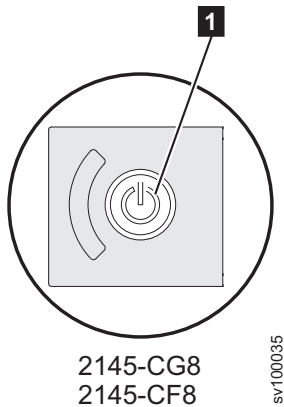

Figure 105. Power LED on the 2145-CG8 or 2145-CF8 operator-information panel
1. Check the SAN Volume Controller 2145-CG8 or 2145-CF8 node power LED (**1** in Figure 105 on page 128).
3. Press and release the power-control button **1** shown in Figure 105. Wait one minute for the SAN Volume Controller to turn off. Ignore a missing node error code if displayed by other nodes in the cluster. When maintenance procedures are completed, the error will resolve itself.